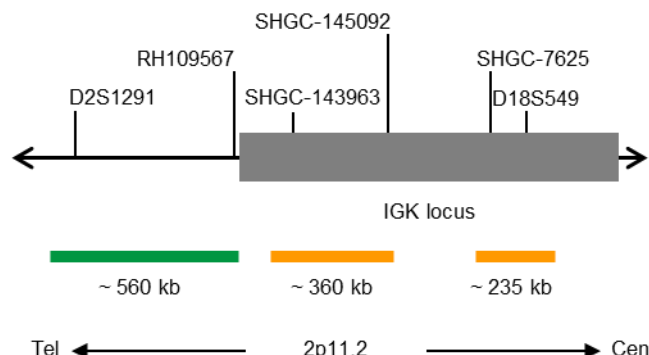
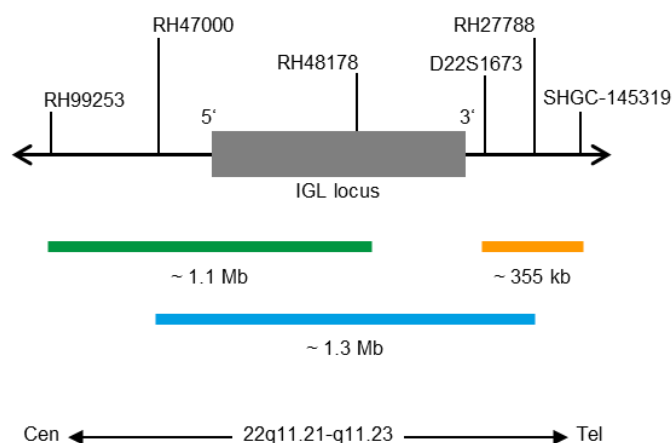

Fig. 1: IGK Probe map (not to scale)
Fig. 2: IGL Probe map (not to scale)
- ZyGreen (excitation 503 nm/emission 528 nm) labeled polynucleotides (~10.0 ng/ $\mu$ l), which target sequences mapping in 22q11.21-q11.22\* (chr22:21,807,535-22,942,402) proximal to the IGL breakpoint region and in 2p11.2\* (chr2:88,592,864-89,153,517) distal to the IGK breakpoint region (see Fig. 1 & Fig. 2).
- ZyOrange (excitation 547 nm/emission 572 nm) labeled polynucleotides (~2.5 ng/ $\mu$ l), which target sequences mapping in 2p11.2\* (chr2:89,246,977-89,609,390 and chr2:89,853,315-90,089,156) proximal to the IGK breakpoint region and in 22q11.22-q11.23\* (chr22:23,324,781-23,679,042) distal to the IGL breakpoint region. Due to homologous sequence segments proximal to the IGK breakpoint region, the orange probe has two hybridization regions in close proximity (see Fig. 1 & Fig. 2).
- ZyBlue (excitation 418 nm/emission 467 nm) labeled polynucleotides (~70.0 ng/ $\mu$ l), which target sequences mapping in 22q11.21-q11.23\* (chr22:22,185,288-23,512,555) harboring the IGL locus (see Fig. 2).